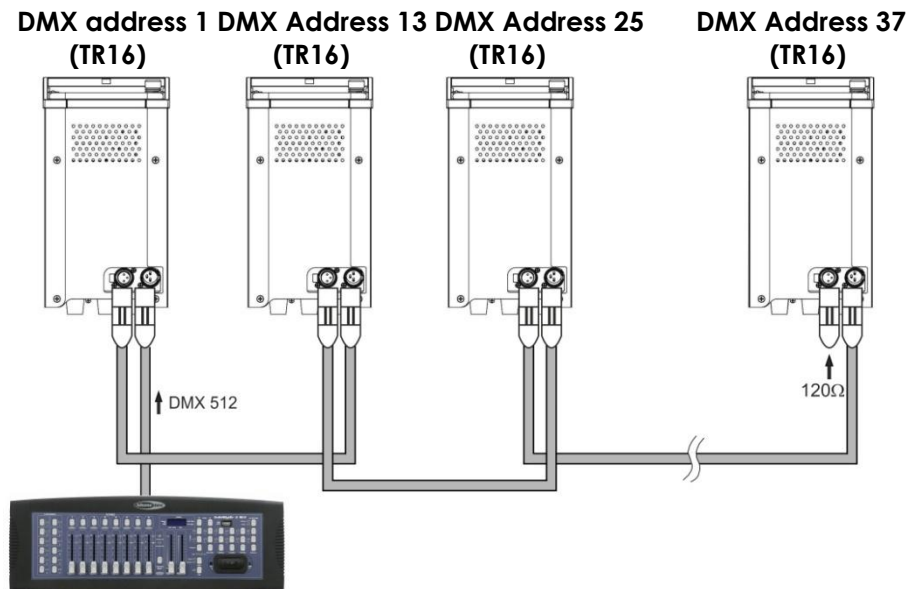

Fig. 5
1. Link the units as shown in (figure 5), Connect a DMX signal cable from the first unit's DMX "out" socket to the second unit's "in" socket. Repeat this process to link the second, third, and fourth units.